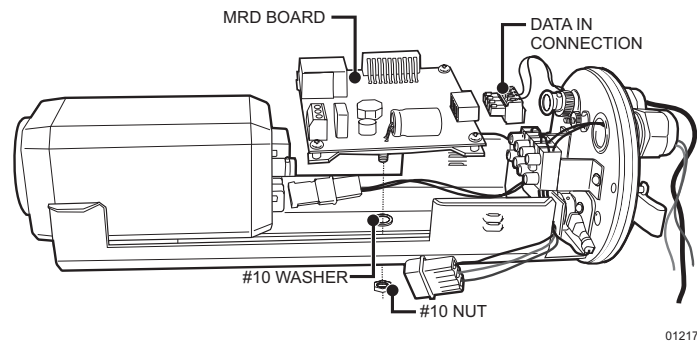

Figure 7. EH2512 Series Enclosure Installation
5. Refer to Figure 7. Attach the board to the camera sled of the enclosure with the supplied #10 nut and washer.